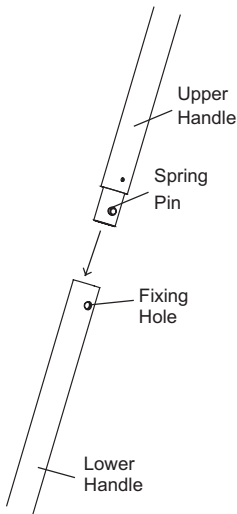

FIG. 1
1. Locate the Spring Pin on bottom end of Upper Handle and the Fixing Hole on the top end of Lower Handle (See Fig. 1).